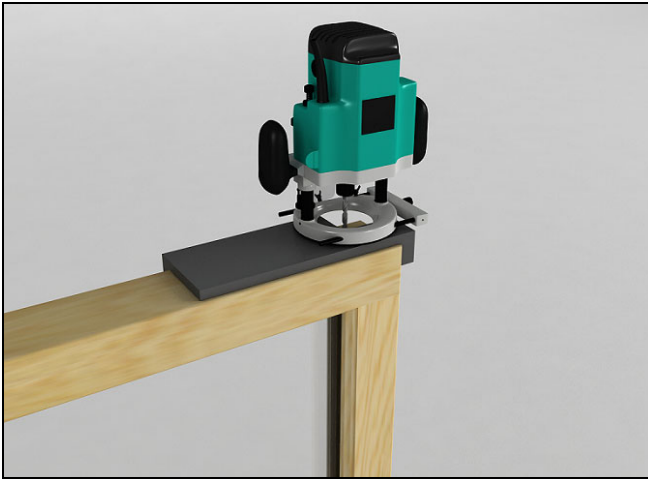

Figure 7
4. Set router depth to 1 1/4" and route. Do not allow router to contact the foam block. Route starting at the top to create an indent so that a blow out doesn't occur when finishing the cut. See Figure 7.